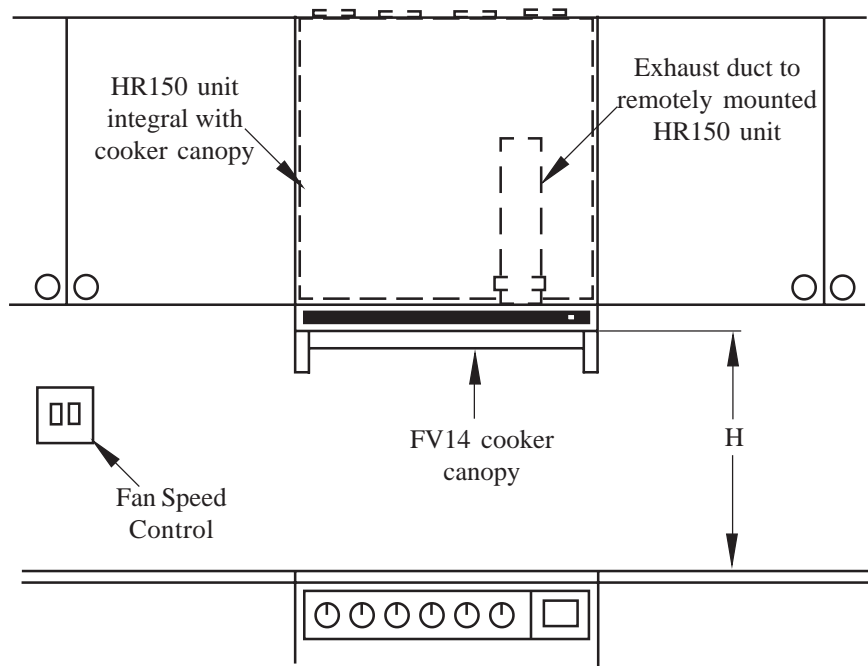

Fig. 4
Note: Installation height is subject to local regulations, but the height (H) of a cooker canopy must not be less than 450mm from the top of an ELECTRIC cooker, or less than 600mm from the top of a GAS cooker (refer to Fig. 4).